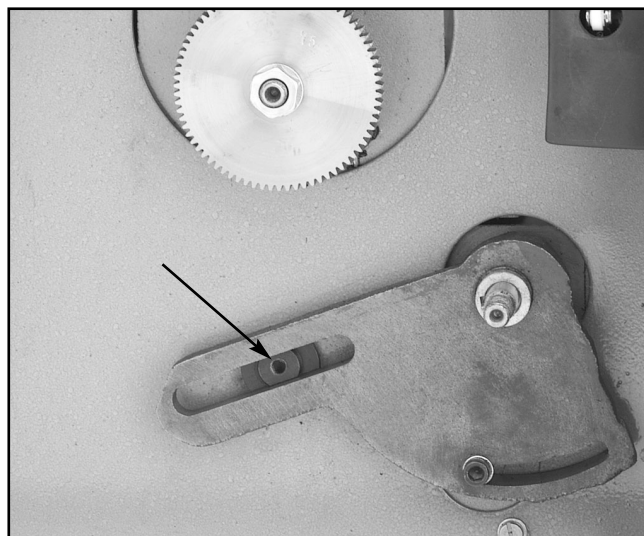

Figure 40. Gear support arm with tee-nut.
4. Remove the cap screw in the middle of the combination gear B/C. This will allow removal of the gears and bushing supporting them. A tee-nut will remain in the gear support arm as in **Figure 40**.